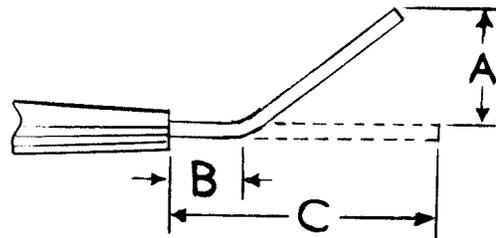

Figure 1.
3. Bend the spark plug electrodes in accordance with the dimensions given in Figure 1. Ensure that dimension "C", the length before bending, is correct prior to any attempt to bend the electrode.